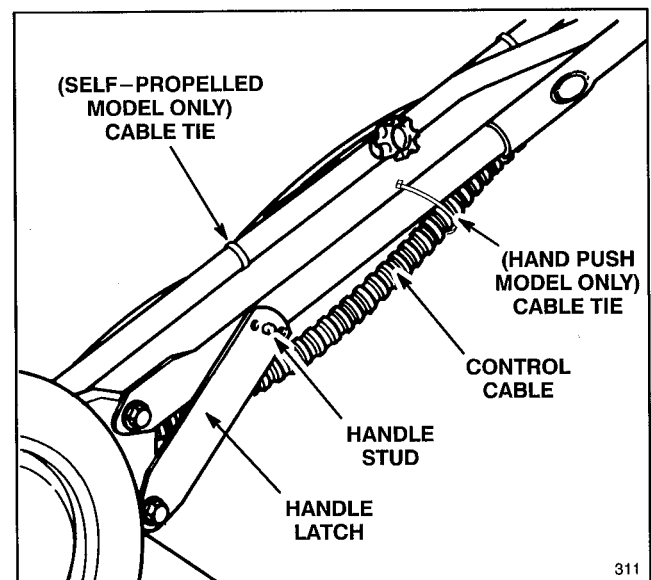

Figure 2
### INSTALL HANDLE (Fig. 2)
2. The left handle knob is shipped from the factory on the outside of the handle (Fig. 1). Remove the left knob and bolt. Reinstall knob and bolt on inside of handle (Fig. 2). Both handle knobs should be positioned on the inside of the handles. Tighten handle knobs.
3. Move handle latches slightly outward so they will not be in the way when pivoting the handle backward into the operating position (Fig. 2).
4. Pivot handle backward. Move handle latches inward while snapping handle stud into center hole of handle latch (Fig. 2). If a handle latch does not fit tightly against the handle tube, remove latch from handle stud, bend the latch inward, and reattach to handle stud. Repeat as necessary to ensure a tight fit between latch and handle. Make sure handle knobs are securely tightened.
**Note:** If handle height is not satisfactory, adjust by placing handle stud (Fig. 2) into a different hole. Tighten handle knobs.
5. Ensure control cables (Fig. 2) are to the rear and inside of handles. Secure cables to handle with cable ties as shown in Figure 2.